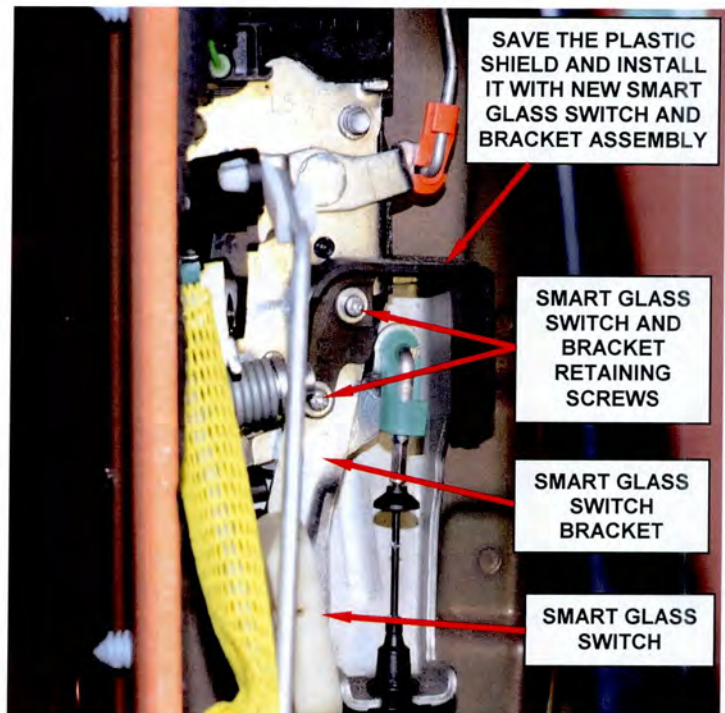

Figure 5 – Smart Glass Switch Retaining Screws
- Carefully remove and save the two screws that hold the smart glass switch and switch bracket to the door latch (Figure 5).
NOTE: Save and reuse the black plastic linkage shield (Figure 5).
8. Install the two smart glass switch bracket mounting screws and tighten the screws to 5 in. lbs. (0.6 N·m) (Figure 5).